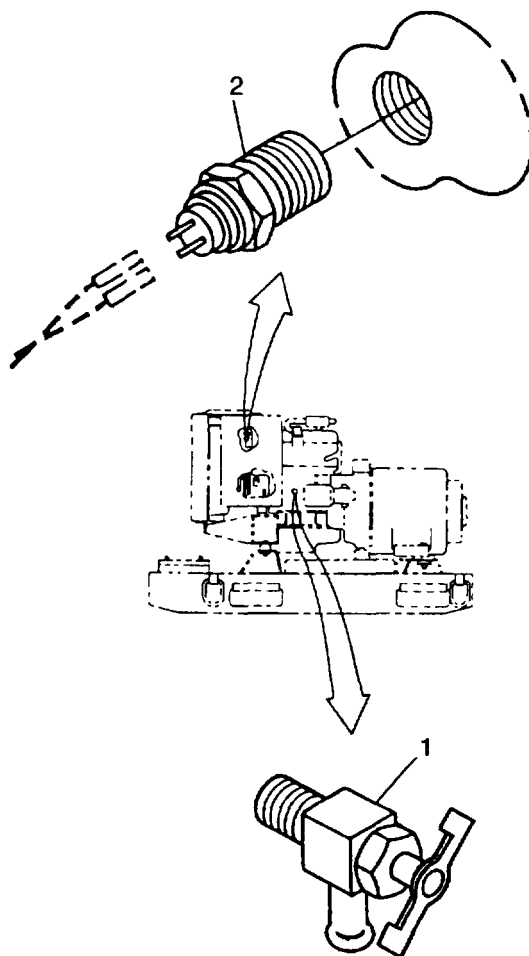

FIGURE 2-32. Engine Switches and Senders, Left Side
- d. Open left side engine access door and open engine block drain valve (1, FIGURE 2-32) and drain coolant into suitable container. Close drain valve.
- d. Open left side engine access door. Open engine block drain valve (1, FIGURE 2-32) and drain coolant into suitable container. Close drain valve.
- f. Tag and disconnect coolant high temperature switch (2) electrical leads.
- g. Unscrew high temperature switch (2) from lower thermostat housing.
- a. Install coolant high temperature switch (2, FIGURE 2-32) in lower thermostat housing.